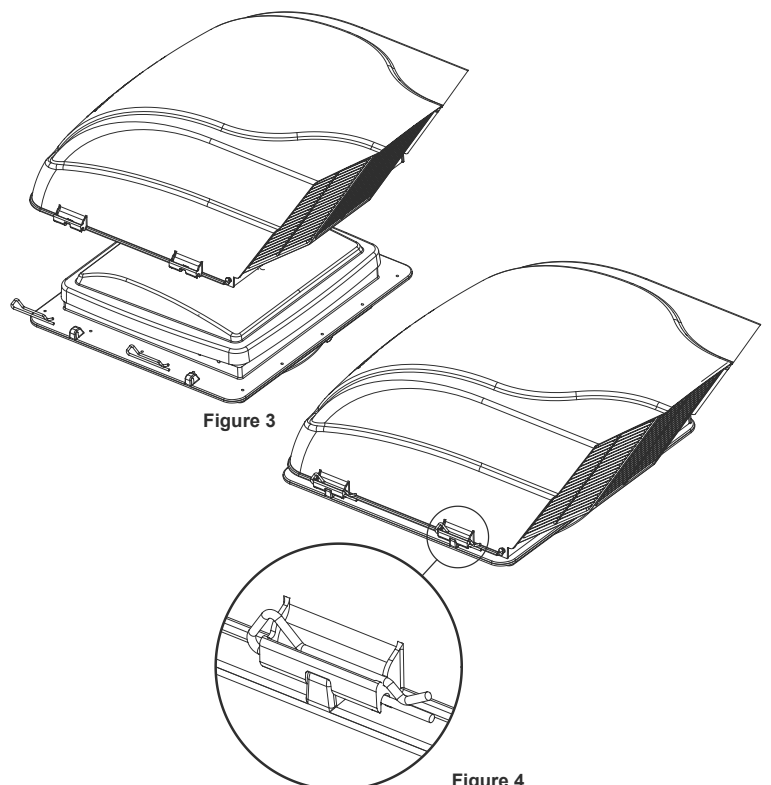

Figure 3
1. Place **FANMATE®** over the four (4) mounting tabs on the **MAXXFAN®** with the louvers facing the rear of the vehicle. See Figure 3.